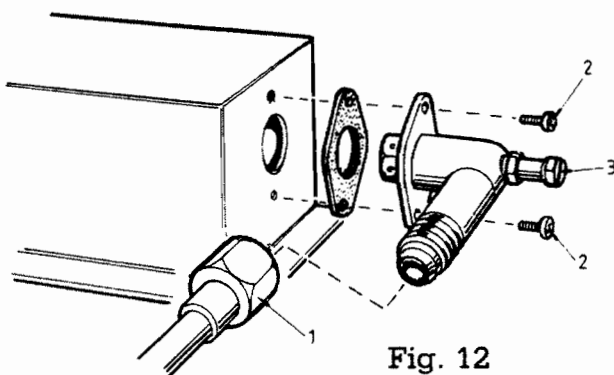

Fig. 12
- (iv) Disconnect the burner feed pipe from the valve top (1).
- (v) Remove the wiring tags (3) noting their positions.
- (ix) Remove the sensing pipes by unscrewing the fixing nuts (2).
- (xi) Remove the burner pressure test point and fit a manometer. Fig 12 (3).
- (ii) Disconnect the inlet connection (1) at the Neva cock.
- (iii) Remove the two hexagonal headed screws (2) to free the inlet pipe.
- (vi) Pull the solenoid valve forward from its base and remove from the bracket at the top (4). Note the two grub screws used for location.
- (vii) Unscrew the four screws (5) and remove the inlet pipe and 'O' ring.
- (ix) Remove the burner pressure test point and fit a manometer. Fig 12 (3).
## 2.3 Injector Fig. 12